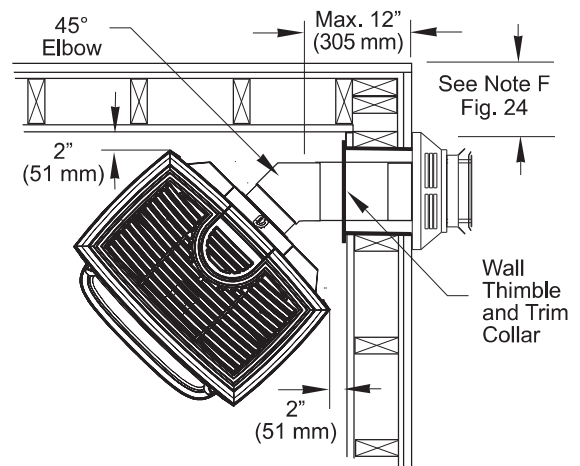

Figure 23. Corner installation with 36" Snorkel termination. Maximum horizontal run is 12".
- One 45° Elbow may be used for a corner installation as shown in fig. 23.